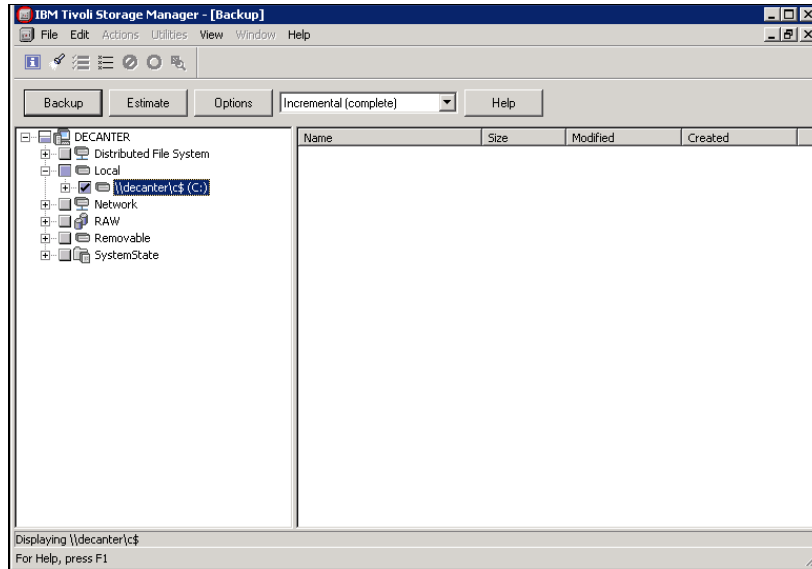

Figure 7-14 Select backup
21. Select the data for backup by checking the check box in front of the location. Figure 7-14 shows a total backup selection for DECANter local data.